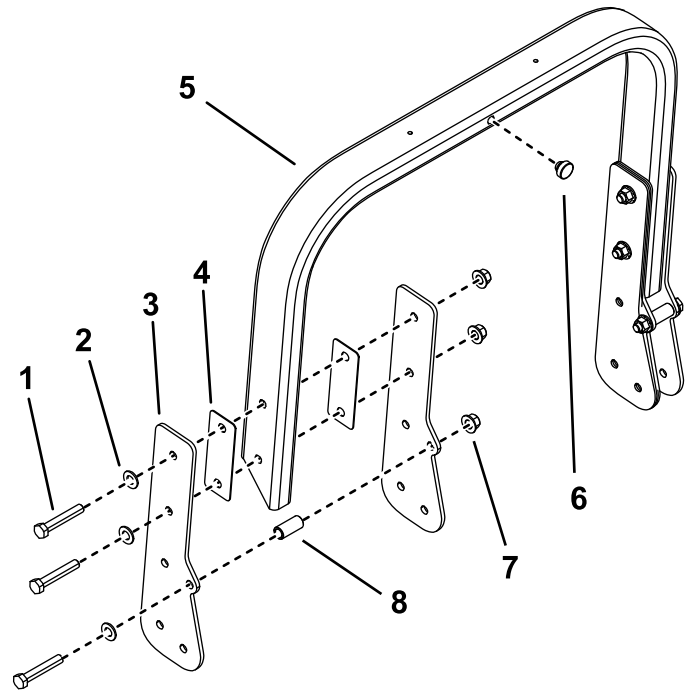

Figure 7
2. Install a bumper in the center of the roll bar (Figure 7).
1. Install 2 side plates to both sides of the roll bar using 3 bolts (1/2 x 3 inches), 2 flat spacers, 3 washers, 1 cylindrical spacer, and 3 locknuts (1/2 inch) on each side (Figure 7).